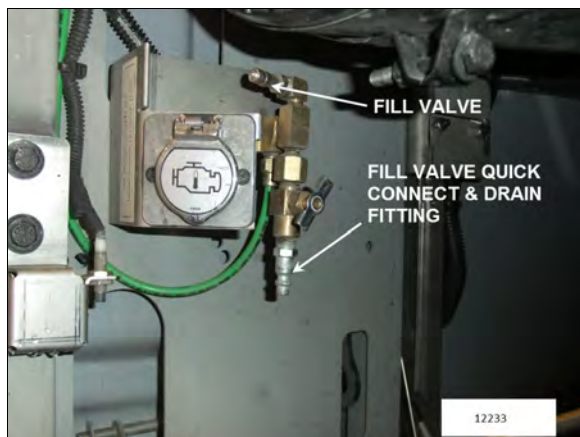

FIGURE 12: REAR VALVE LOCATION (TYPICAL)
The rear valve is located in the engine compartment and is accessible from engine compartment R.H. side door (Figure 12).
The air dryer and wet tank may be purged simultaneously for maintenance purposes using the drain cock on the emergency air system fill valve located in the engine compartment and accessible through the engine compartment R.H. side door (Figure 12).
5. Release air dryer pressure by opening the air dryer drain valve (Figure 12).